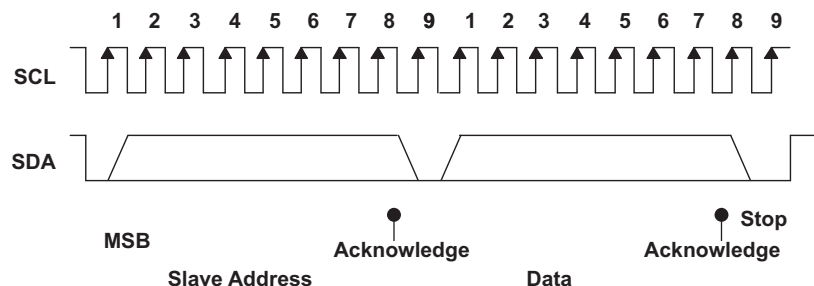

Figure 8. I²C Address and Data Cycles
- The master generates further SCL cycles to either *transmit* data to the slave (R/\bar{W} bit 1) or *receive* data from the slave (R/\bar{W} bit 0). In either case, the *receiver* must acknowledge the data sent by the *transmitter*. So, an acknowledge signal can either be generated by the master or by the slave, depending on which one is the receiver. The 9-bit valid data sequences consisting of 8-bit data and 1-bit acknowledge can continue as long as necessary (see Figure 8).